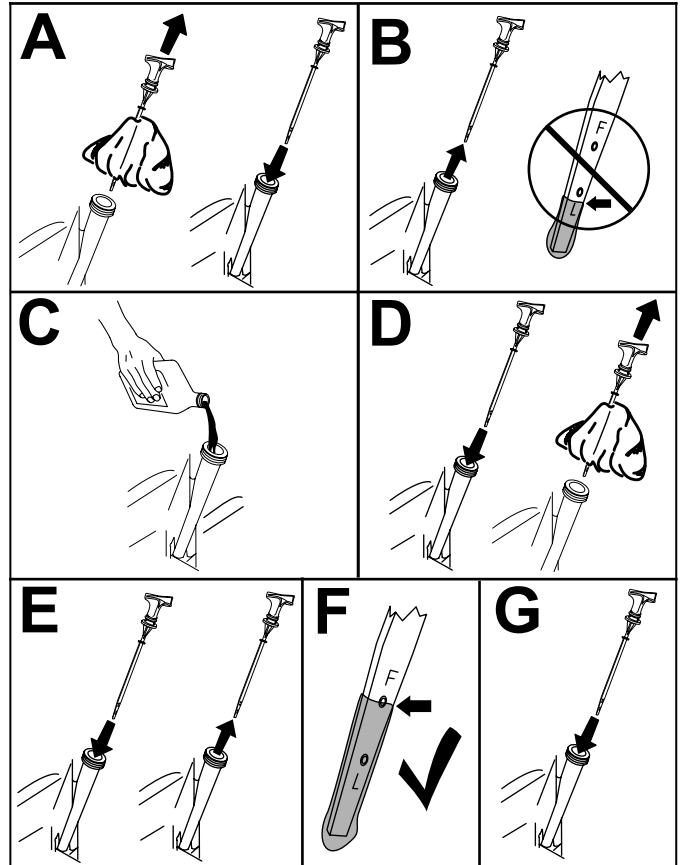

Figure 32
3. Check the engine-oil level (Figure 32).